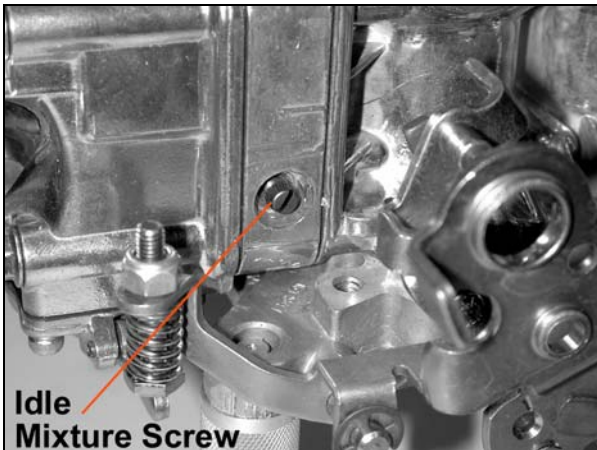

Figure 11
- Adjust each idle mixture screw (Figures 11 & 12) 1/8 turn at a time, alternating between each screw. Turn them equally, until you achieve the highest possible vacuum reading without adjusting the curb idle speed screw. Turn screws in to lean the mixture. Turn them out to richen the mixture.